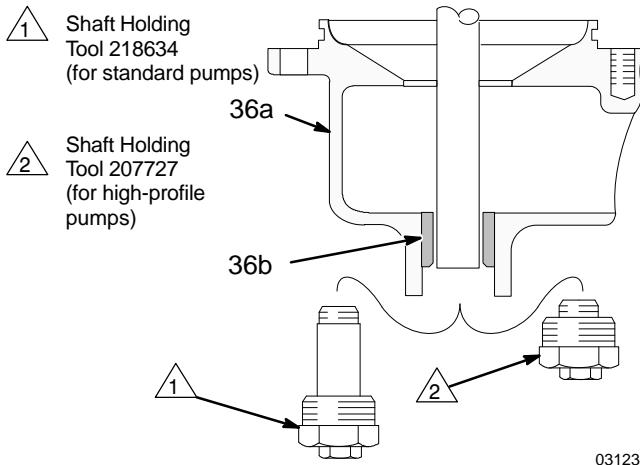

Fig. 5
**NOTE:** It is not necessary to remove the pump from the stand. However, if you are also repairing the lower pump, you can install the shaft holding tool and move the pump to the repair stand at this time. Use the tool indicated in Fig. 5.
**NOTE:** Replace the pump thrust bearing (A) assembly at least once a year. Replace the assembly if the pump housing temperature goes over 150°F (53°C), which is the first sign of bearing failure.
8. Remove the three screws (13) and shaft seal assembly (41).
9. If the pump is mounted in a repair stand, install the shaft holding tool. See Fig. 5.
10. Install the shaft seal assembly (41) with the three screws (13).
11. Replace the shaft seal (8) in the adjusting nut (35). Install the adjusting nut, engaging just one thread in the pump base (31).
12. Position the bearing support (22) on the adjusting nut (35) so its pin (P) and the slot in the support align.
13. Screw the adjusting nut (35) down just until the bearing support (22) bottoms out on the housing. Turn the nut back 1 to 1-1/2 turns to engage bearing support.
14. Slide the coupling assembly (58) over the shaft (33).
15. Align the keyway and insert the key (58b) between the coupling assembly and shaft.
19. Install the two hold-down screws, washers, and springs (10, 11, 25). Bottom the screws and check the vertical travel of the retainer (A) against the spring. If the shaft nut (28) and coupling housing (58) are properly installed, the retainer should lift 0.12 to 0.19 in. (3.2 to 3.8 mm) before the springs are solidly compressed.
20. **If the pump is mounted in an assembly stand,** loosen the shaft holding tool. See Fig. 5.